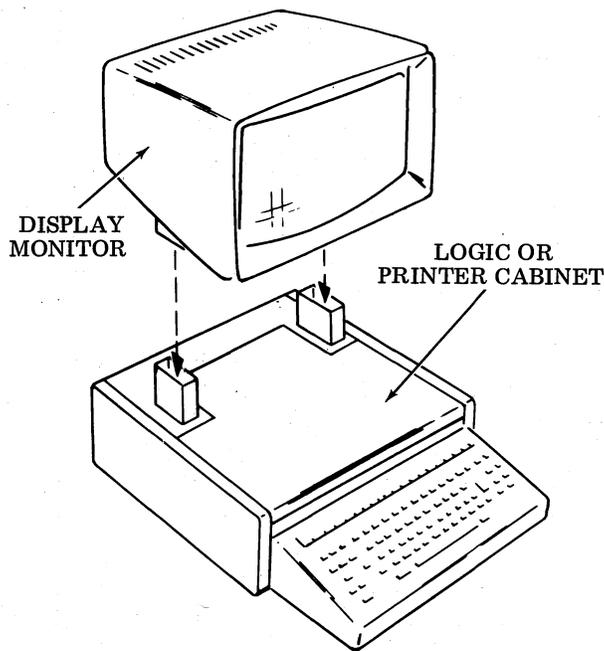

Figure 2 - Typical Display Monitor Arrangement
1.03 The drive signals and ac power enter the display monitor through connectors located in the monitor support legs. The display monitor can be installed either onto a DATASPEED 40 logic or printer cabinet as shown in Figure 2.